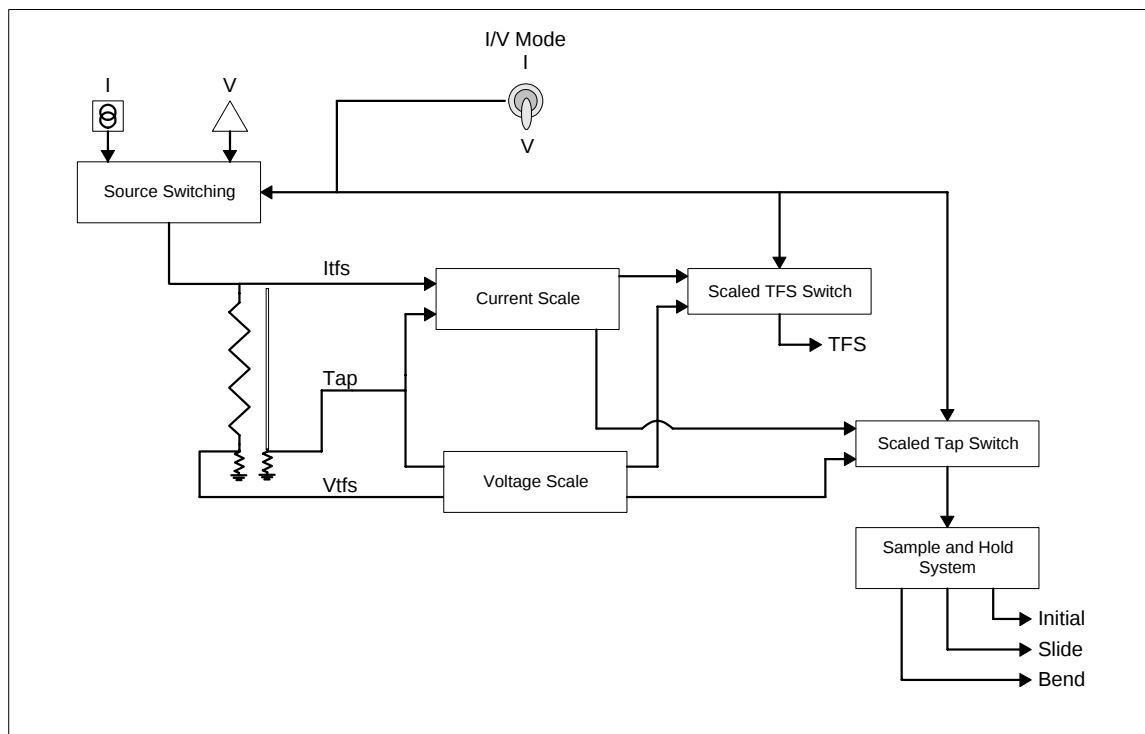

Figure 19: Appendage Ribbon Voltage Mode and Scaling Functions
In Figure 19 it can be seen that the Appendage is placed in either Voltage (V) mode or Current (I) mode of operation by switching the I/V Mode Switch either to V or I.